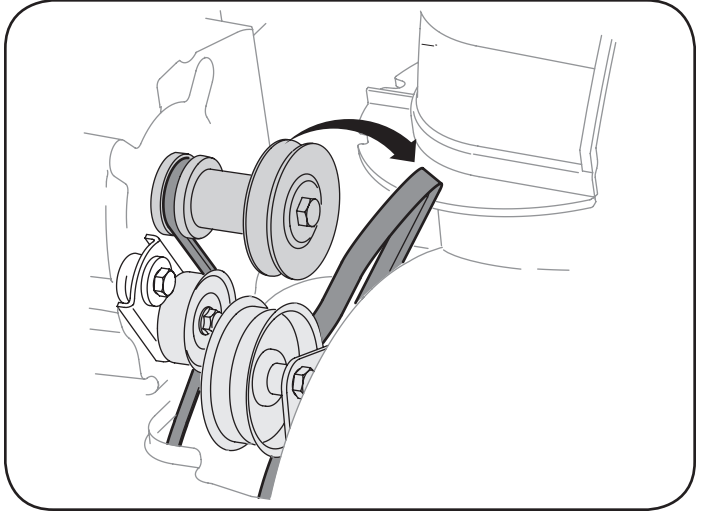

Figure 31
3. Roll the auger belt off the engine pulley. See Figure 31.